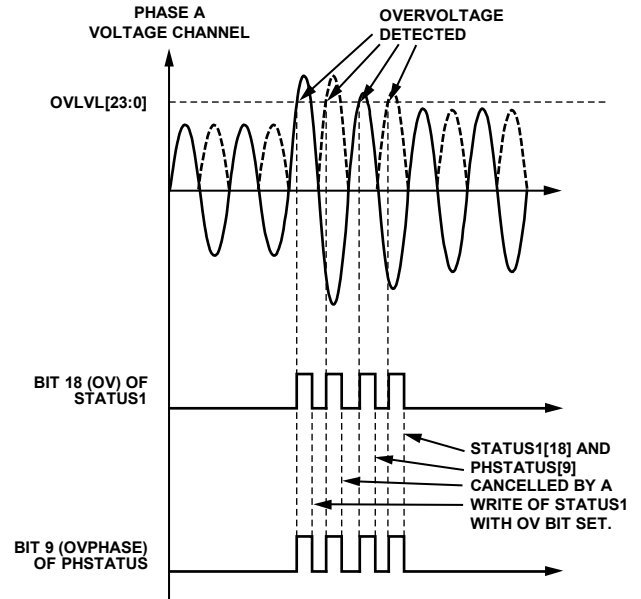

Figure 53. Overvoltage Detection, Phase A
Next, Bit 18 (OV) in the STATUS1 register and all Bits[11:9] (OVPHASE[2:0]) in the PHSTATUS register are cleared. Set the  $\overline{\text{IRQ1}}$  pin to high by writing to the STATUS1 register with the status bit set to 1. See Figure 53 for overvoltage detection in Phase A voltage.